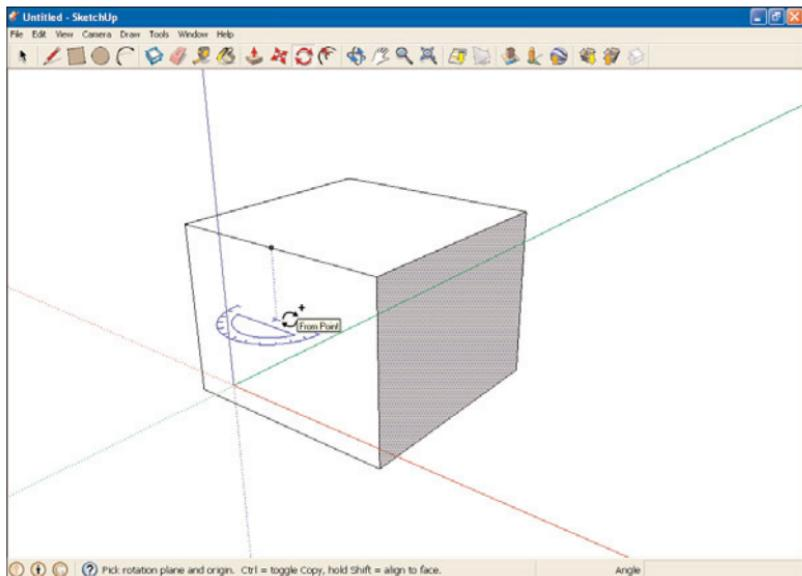

FIGURE 8.8 The rotation base is horizontal.
8. With the Shift key down, move the rotation base around the various surfaces and planes in the drawing to confirm that the rotation base stays horizontal. You can see examples in Figures 8.8 and 8.9.